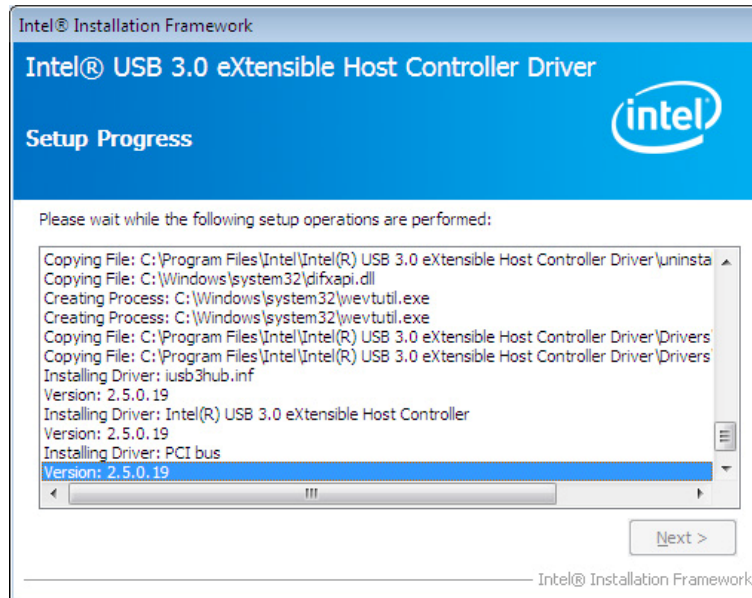

Figure 6-22: USB 3.0 Driver Setup Operations
Step 8: **Setup Operations** are performed as shown in **Figure 6-22**.